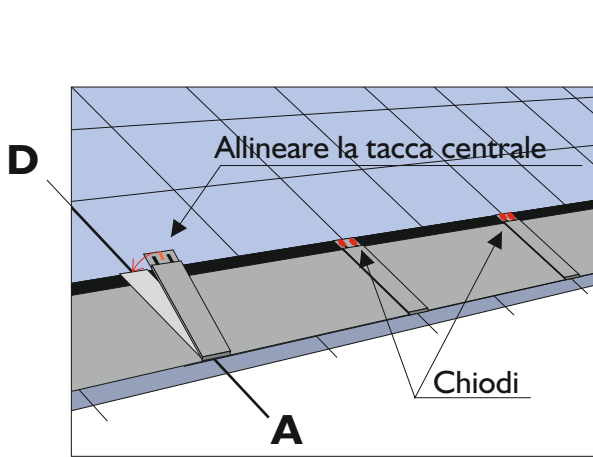

Fig. 8 - Installation of Ultimetal Clip
- Install the " Compact Clip" aligning the central notch on the line AD and nailing it into the proper holes (Fig. 8).